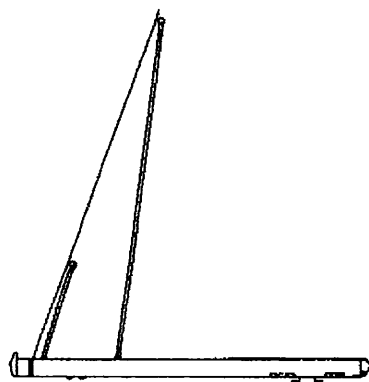

Fig. 21
Two (2) reef lines are rigged onto the boom. The aftermost line is the first reef line (see Fig. 21). Reeve it through the first reef cringle on the leech and secure it to the eye on the top of the boom on the opposite side by a bowline.